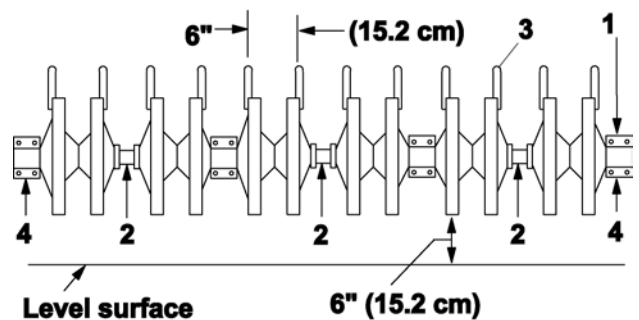

**FIGURE 2**
2. Activate tractor hydraulic system and raise Tracaire. Raise the unit approximately 6" (15.2 cm) above working surface and support with jackstands placed beneath the pillow blocks. Lower Tracaire onto jackstands and shut off tractor engine. See Figure 2.